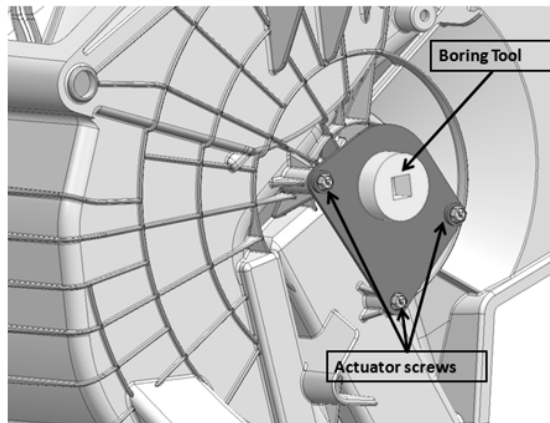

Figure 8 – Hole Saw Installed
17. Install the precision hole saw tool using the temperature actuator screws (Qty 3) (Fig. 8).